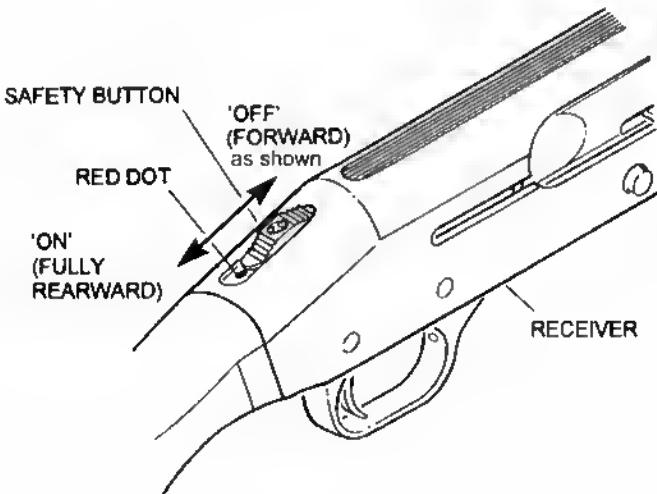

Figure 1
The safety button is located on the top rear portion of the receiver (Figure 1) and must be manually moved to the desired position by the shooter.
Visually and physically check to be sure the firearm is unloaded and the safety button is fully rearward in the "ON" (SAFE) position (Figure 1).
Before loading, move the safety button fully rearward to the "ON" (SAFE) position (Figure 1).
**The shotgun is now loaded! The safety button (Figure 1) should be kept fully rearward in the "ON" (SAFE) position until you are on target and have actually decided to fire. Keep the muzzle pointed in a safe direction at all times, and your fingers and any other objects away from the trigger area.**